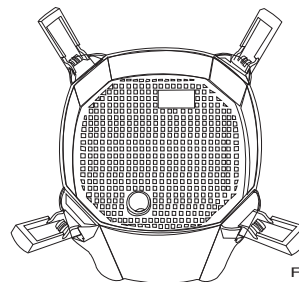
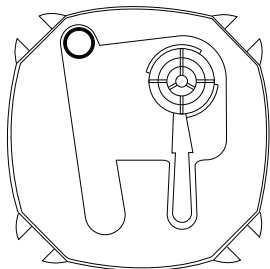

Fig 6
Fig 7
8. Ensure the filter grid is then placed back on top of the last filter basket. This is very important. Fig 6
9. Prior to installing the head unit, turn it over so you can see the impeller. Make certain that the power cord is not wet and plug it into the receptacle then turn it on and ensure it is working. If the impeller does not turn see *Cleaning Your Filter* for instructions on how to assess the impeller. Remove the Black sealing O-ring from the feeder pipe. Fig 7 and place it on the filter inlet pipe on the top filter basket. Fig 6
18. Repeat steps 14 to 17 for the outlet. Fig 6
19. Place the Suction caps on the spray bar then attach it to the back or side of the aquarium. Fig 7
17. Pull the rubber end cap off the shaft of the impeller and run water through the hole in the middle of the impeller. Clean any debris which may have built up on the shaft off, along with any slime build up on the impeller. Fig 6